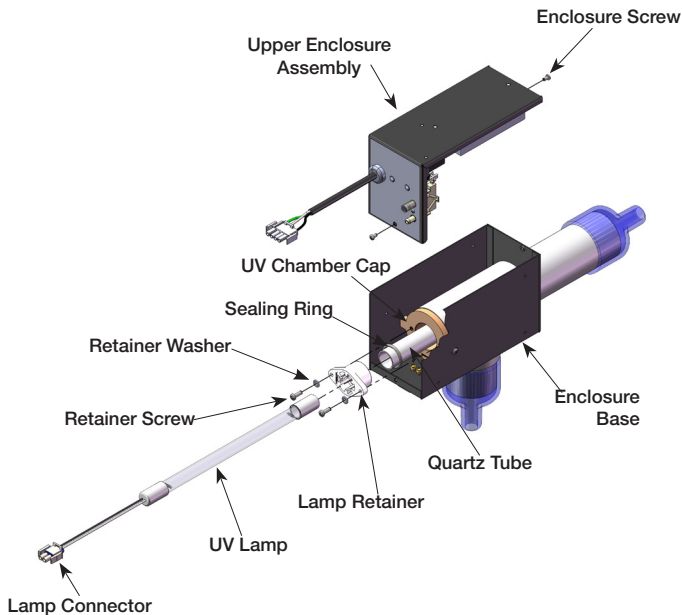

Figure 3: Spa Solar Eclipse Exploded View
a. UV Lamp Removal – See Figure 3.